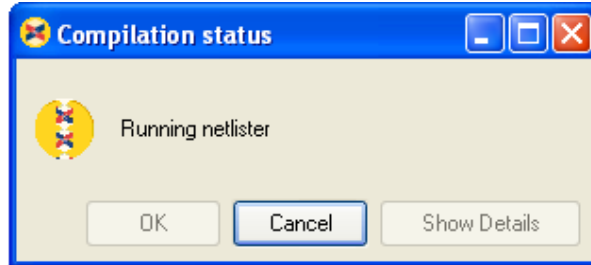

Figure 13: Building the Design Netlist
- Click **Generate** to build the hardware system. This step will generate a bit-stream that will later be used to configure the FPGA. ISE flow is used by System Generator to build this bit-stream. The progress of the process is displayed in the Compilation Statue window as shown in Figure 13.